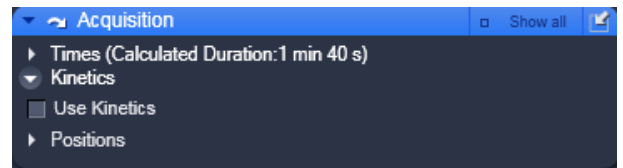

Fig. 9-37 Kinetics panel
- Click on the **Kinetics** tab to open the **Kinetics** panel (Fig. 9-37). Click again to close the panel.